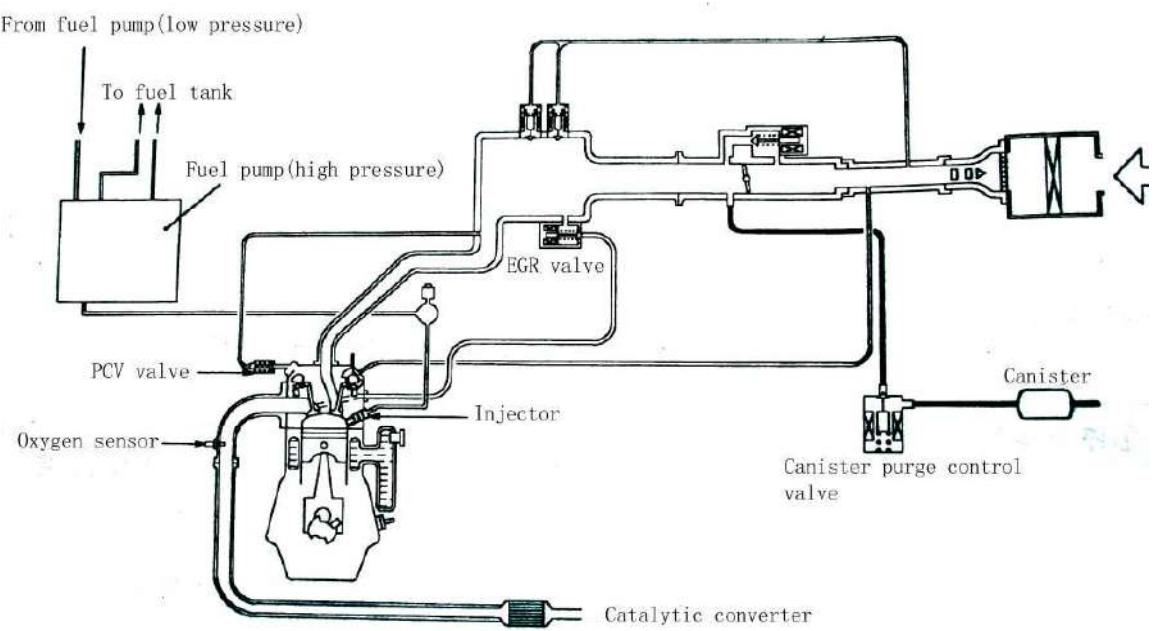

Fig. 10-3
(1) SYSTEM DIAGRAM (see Fig.10-3)